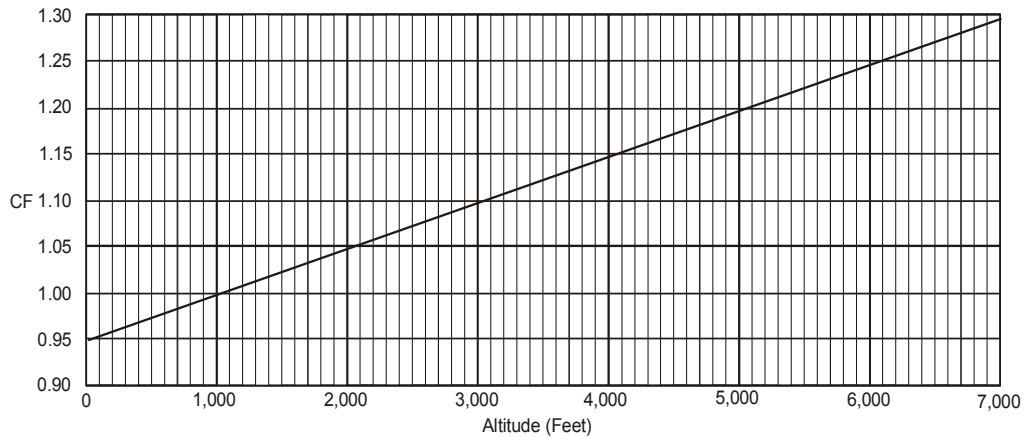
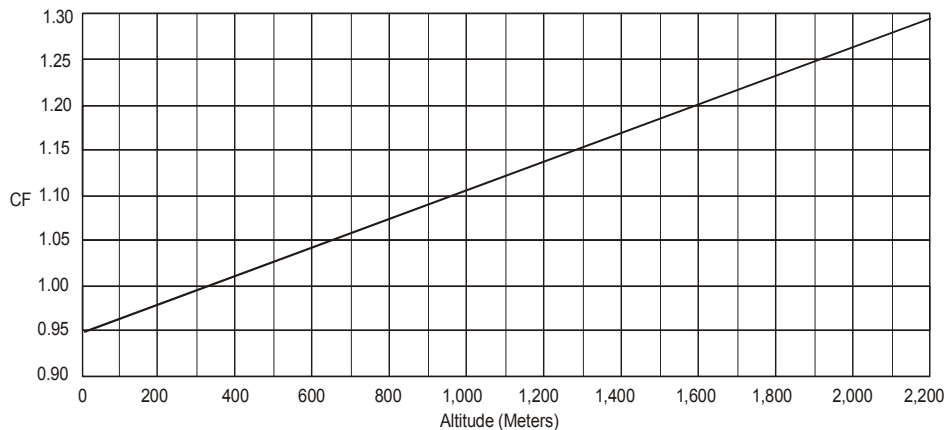

Figure 7: Altitude Compensation, Feet above Sea Level
Figure 8: Altitude Compensation, Meters above Sea Level
To do this, reset the 2,000 ppm value using the controller's compensation factor (CF) shown in Figure 7 or Figure 8.
For example, if the sensor is situated at an altitude of 3,000 ft (914.4 m) above sea level, the CF is 1.10 (see Figure 7 or Figure 8). The corrected value is: